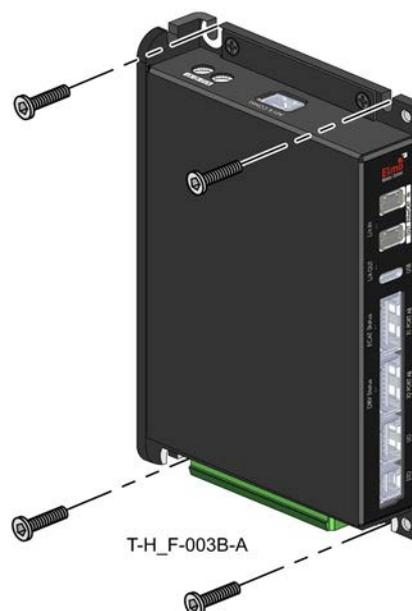

Figure 3: Bottom-side wall-mounting Titanium Falcon
- For Bottom-side wall-mount: Mount the Titanium Falcon with four M4 screws, see Figure 3.